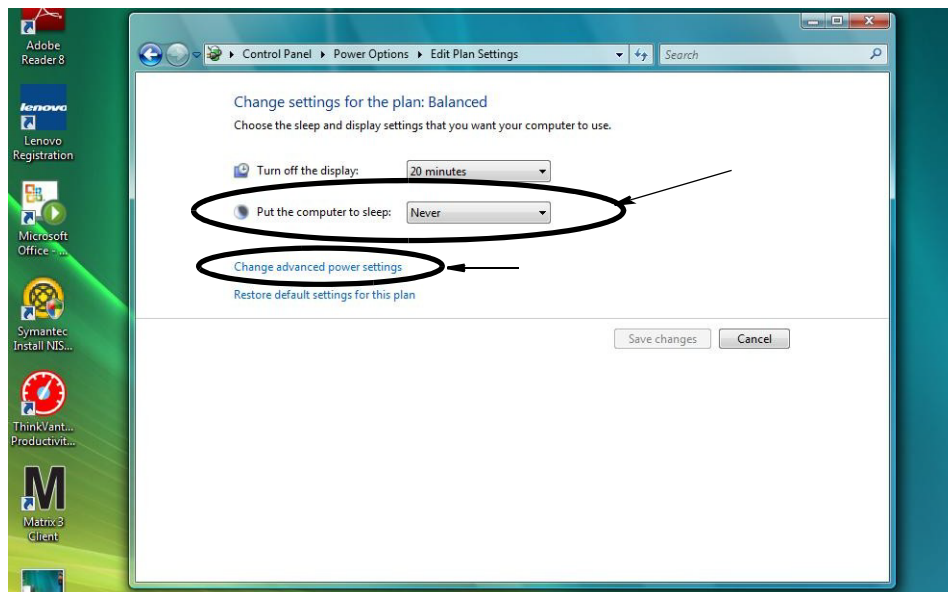

FIG. 35
4. Change the “Put the Computer to Sleep” field to NEVER. Then select the “Change Advanced Power Settings” (FIG. 35).